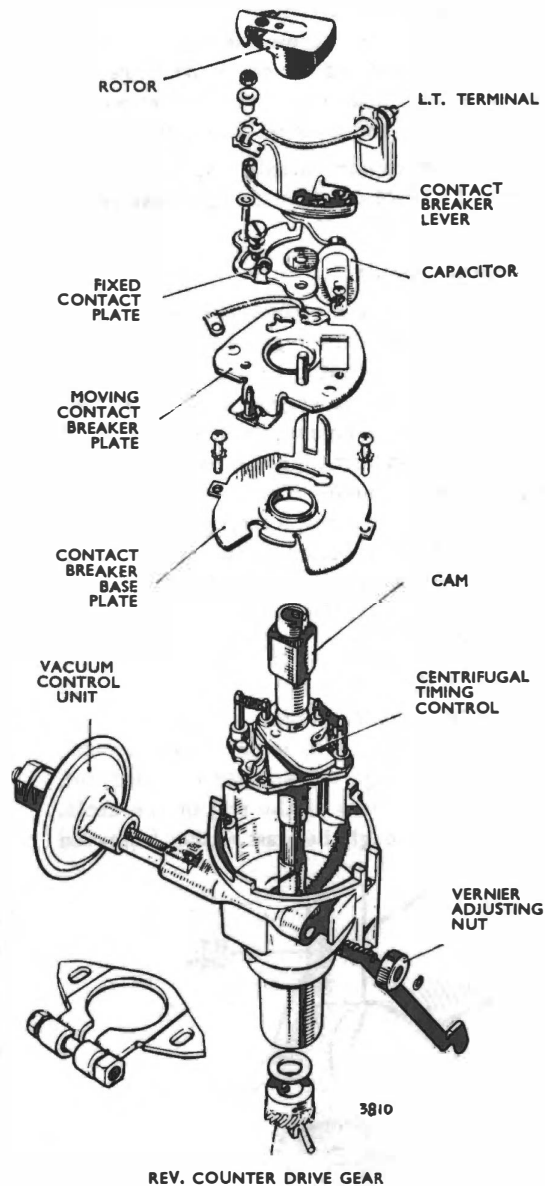

Fig. 22. Exploded view of distributor
**Reassembly (Refer to Fig. 22)**